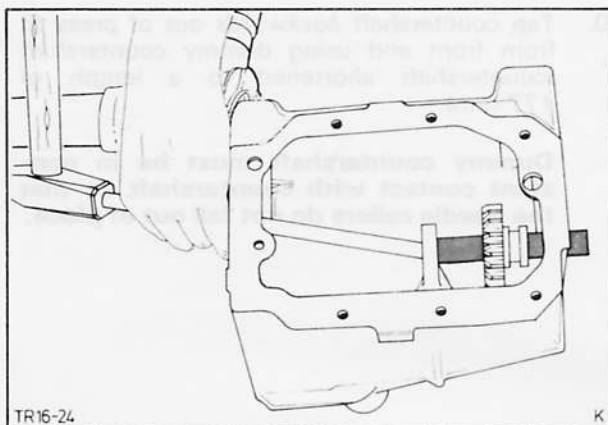

Fig. 28. Remove reverse gear idler shaft
15. Remove reverse gear idler shaft, Fig. 28. To do this, take a copper mandrel and drive reverse gear idler shaft out towards the rear, remove reverse gear.